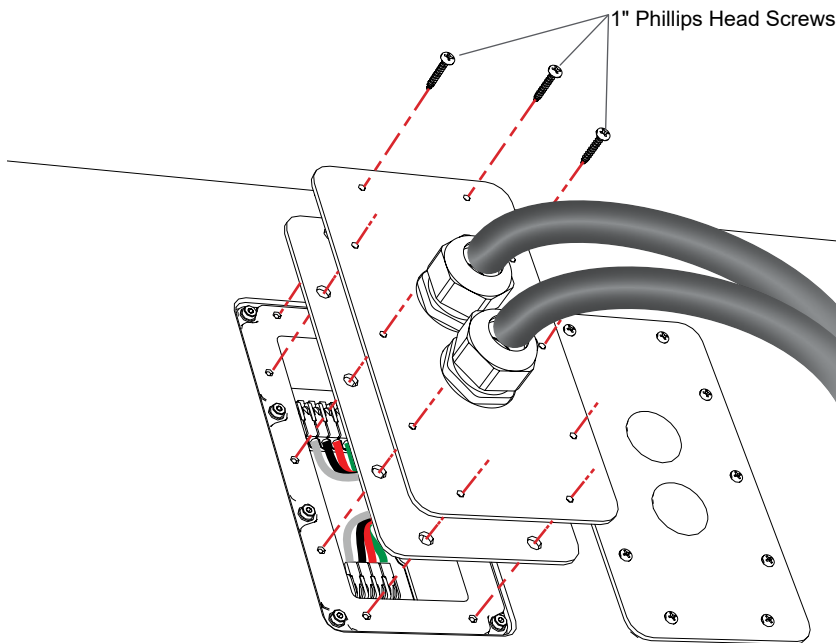

Figure 13. Attach cover to input panel - 10 screws/panel.
1. Install two (2) gland nuts or conduit fittings on the provided cover plate.
4. Attach the cover using the ten (10) Phillips head screws. Fully tighten to compress the gasket without stripping the screw in the cabinet. (Figure 13)